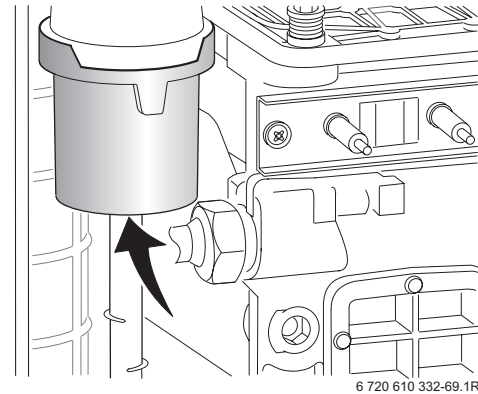

Fig. 52
- ▶ Unscrew the two fixing screws and carefully remove the electrode assembly. Refer to fig. 52.